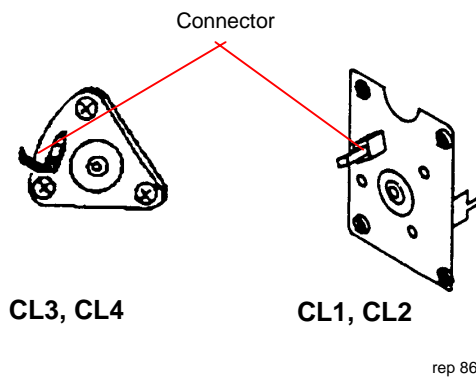

Figure 1. Disconnecting the Connectors
2. (Figure 1): Disconnect the connector for the clutch to be removed.